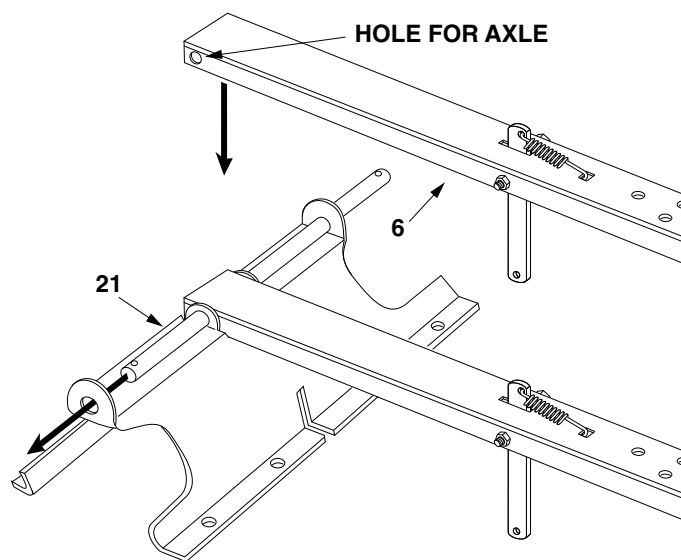

FIGURE 2
- Assemble the rear tongue (6) to the wheel support by sliding the axle (21) through the holes in the tongue and wheel support as shown in figure 2.